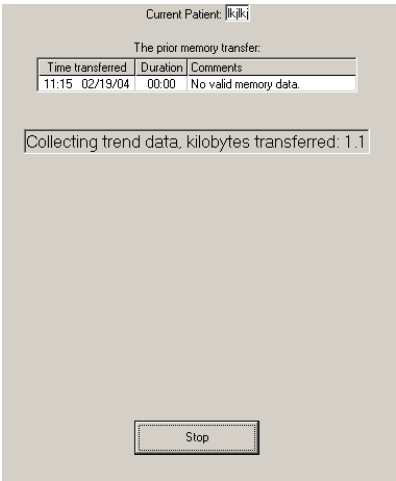

Figure 32. Profox Collecting Trend
4. The Collecting Trend screen (seen in Figure 32. Profox Collecting Trend, below) appears during data collection. If you wish to stop collection at any time, click *Stop*.